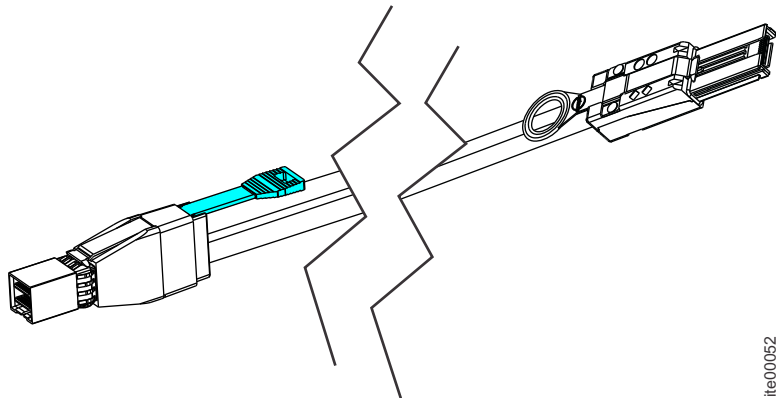

Figure 134. Mini SAS HD to Mini SAS cable
- Mini SAS HD to Mini SAS (Figure 134)